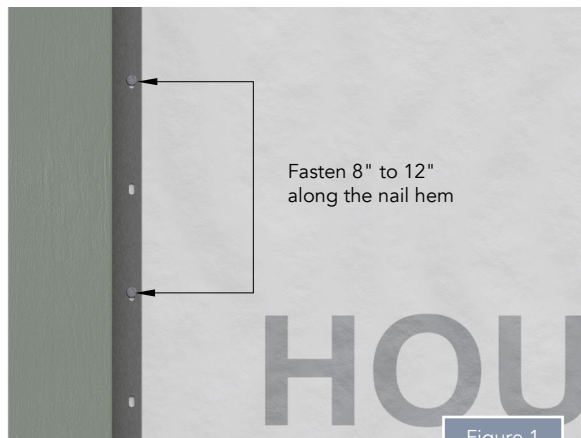

Figure 1
- Securely fasten the outside corner trim to the wall using galvanized, stainless, or corrosion-resistant nails or screws approximately every 8" to 12" along the nail hem (Figure 1).